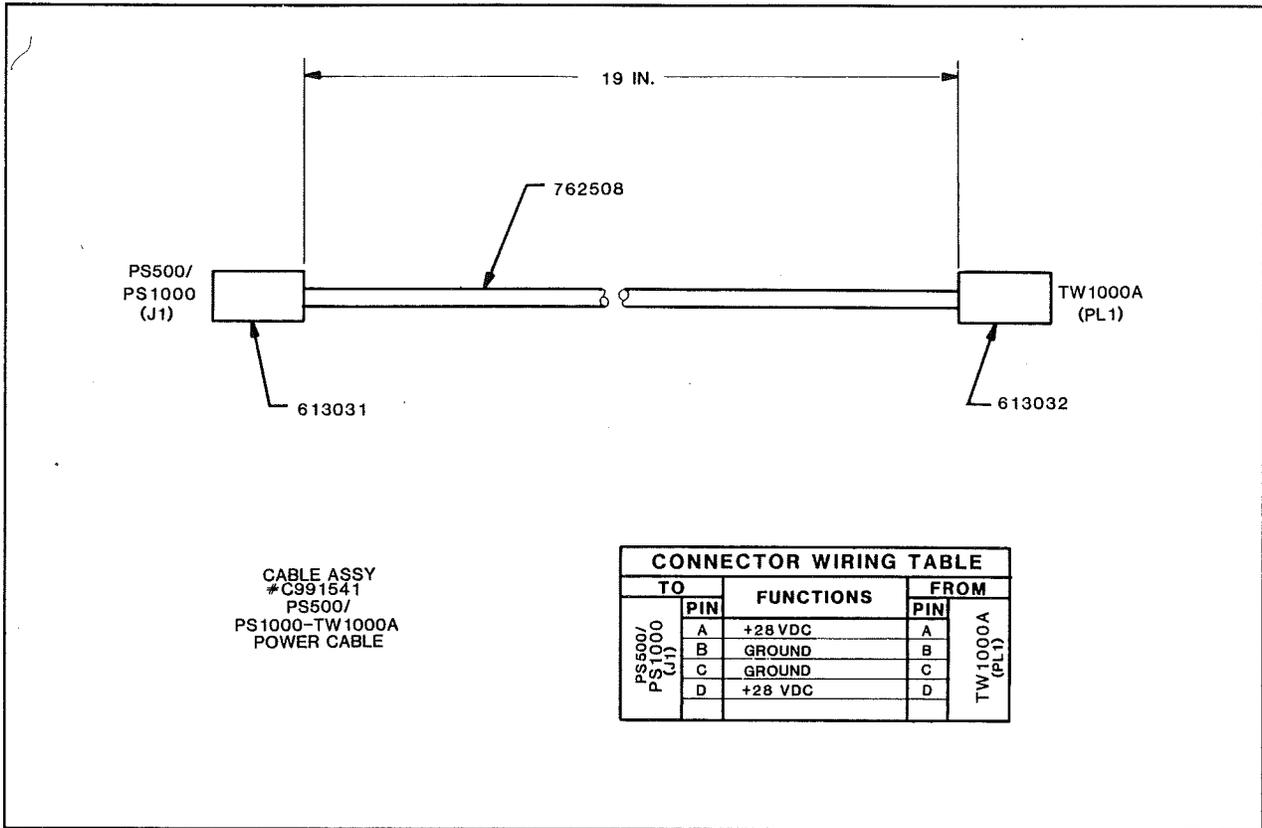

FIGURE 3-15. Power Cable (C991541).
6. C991541 -- See Figure 3-15.